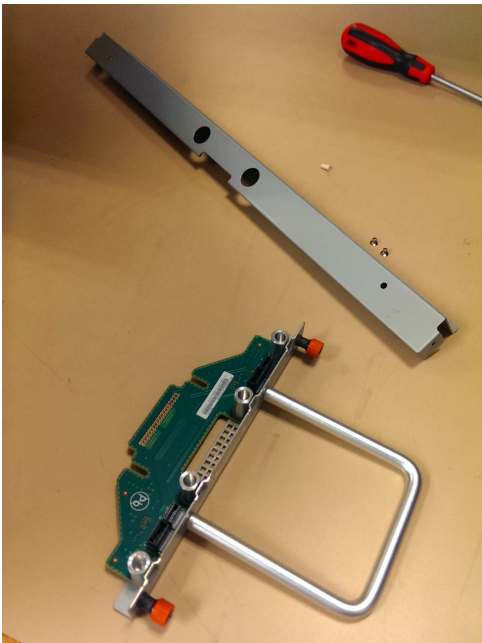

Figure 83. FIB parts for the chassis
1. Assemble the new FIB, cover, and the cover screws (shown in Figure 83) in a safe location.